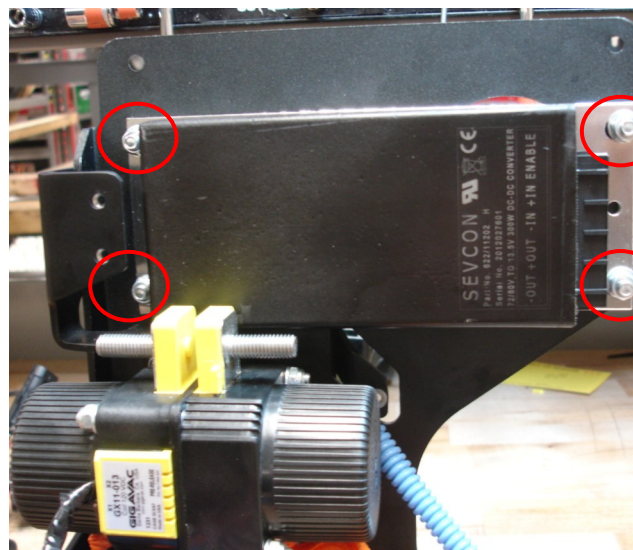

Figure 47
32. If required from STEP 31, install DC-DC CONVERTER (ITEM 27) on XMX MODULE SUPPORT PLATFORM (ITEM 8) now. Install with (x4) M6 NYLOC NUTS and (x4) M6 WASHERS (ITEM 15). See FIGURE 47.